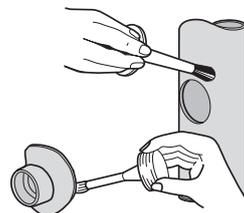

Fig.26e Applying cement
Step 5 – Apply 9100 Liquid Weld (solvent cement) to all mating surfaces using a clean brush (Fig.26e)